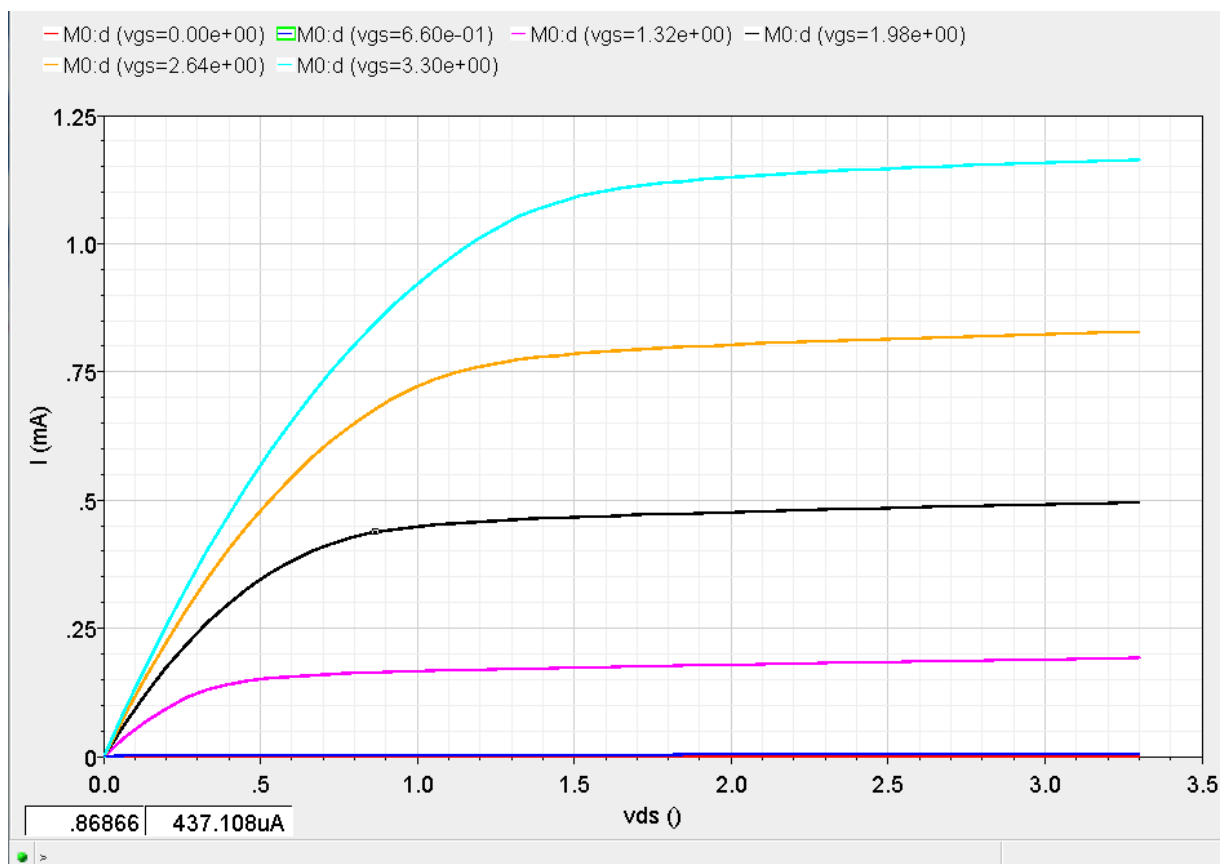

Figure 6: I_D - V_{DS} characteristic of the NMOS transistor
- Click on "Analysis->Start All" to start the simulation. After the simulation is completed, a waveform window will be opened. Figure 6 shows the $I_D - V_{DS}$ characteristic of the NMOS transistor at different Gate Source voltages.